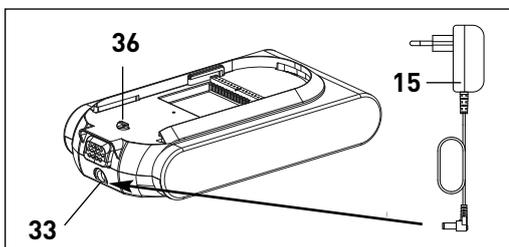

Figure 6
Charging battery separated from the machine - Figure 6 - Place battery on a stable, heat-proof surface and connect the cable of the charger (15) to the charging socket (33). Charging is indicated by a flashing blue LED light (36) on top of the battery. The charging process has been completed when the light turns off.